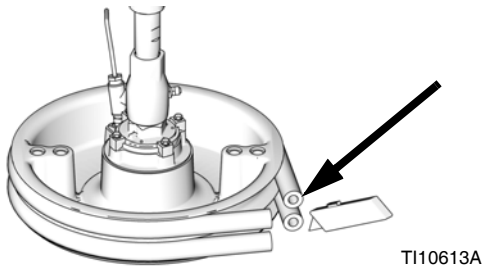

FIG. 12: Remove Wiper
2. Cut top and bottom wipers with knife and remove from platen. See FIG. 12.